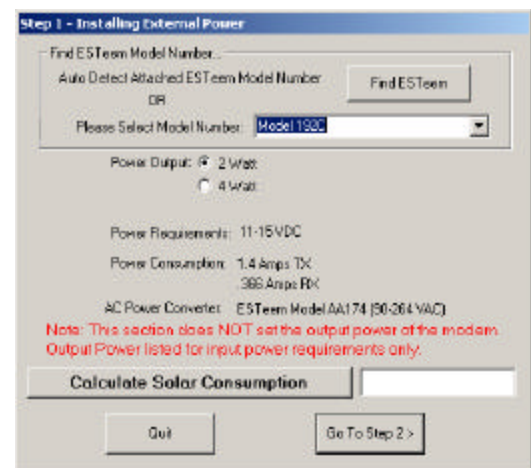

Figure 5: Step 1 - Installing External Power
- Step 1 – Installing External Power window will be displayed (Figure 5). Select either Find ESTeem or the model number of ESTeem you are programming. The power requirements for that product will be displayed. The ESTeem model AA174 power supply can be used with all ESTeem products. If you are using the ESTeem in a solar power application, press Calculate Solar Consumption button for the Amp/Hours required. Press Go to Step 2 to continue.